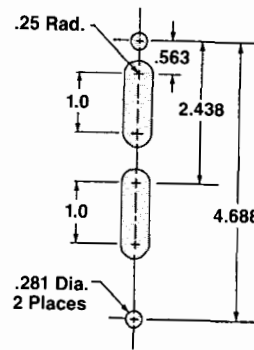

Fig. 1
- Drill the mounting holes in the enclosure flange and file all burrs. See Fig. 1 & 2. Note the maximum and minimum drill hole distances in Fig. 2.